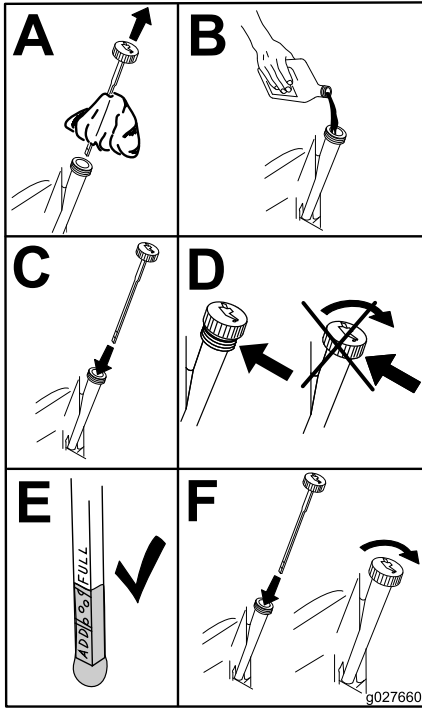

Figure 54
- Slowly pour approximately 80% of the specified oil into the filler tube and slowly add the additional oil to bring it to the FULL mark (Figure 54).